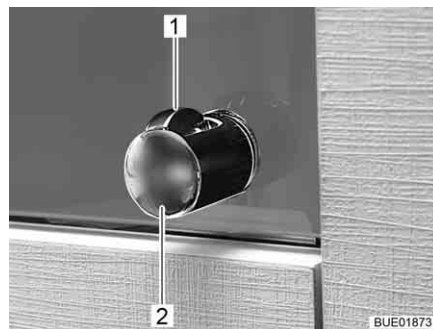

Fig. 40 Handle with release knob
- Press the release knob (Fig. 40,1) and hold it down.
- Pull the handle (Fig. 40,2) until the furniture flap is open.